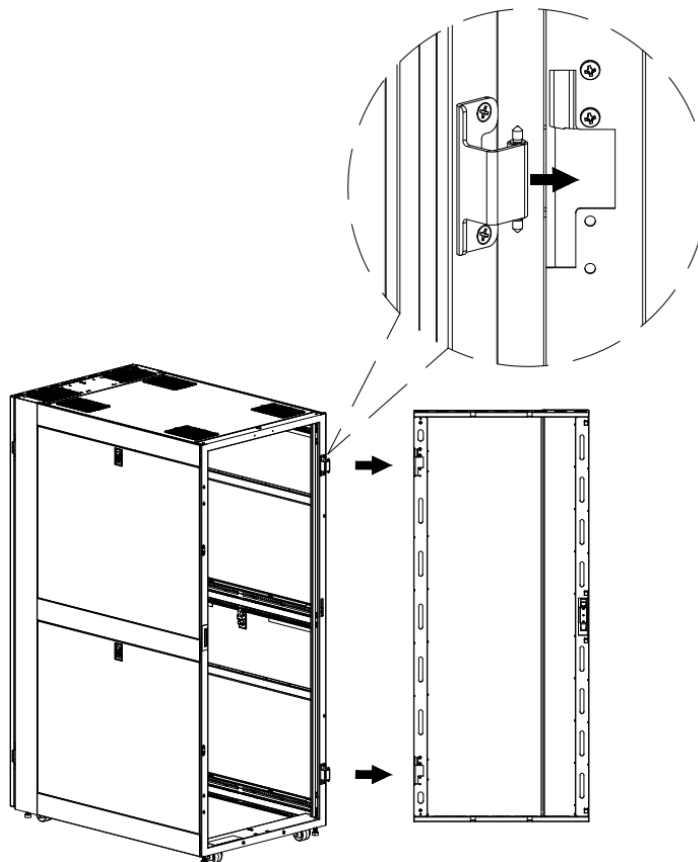

Figure 6.3.2
- The hinges come apart by lifting the door upward and outward. Slowly lift and pull the door from the cabinet until the hinge pins on the door are free of the hinges on the cabinet frame. (Figure 6.3.2)